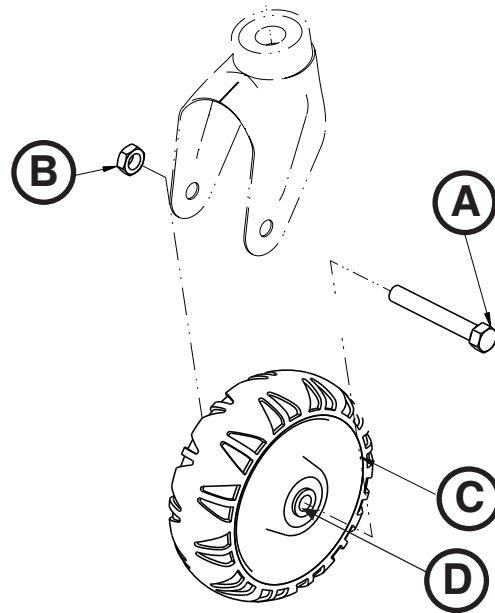

Figure 30: Cot Wheel without Wheel Covers
2. Using a 5/8" socket with 3/8" drive ratchet and a 11/16" combination wrench, remove the hex head cap screw (A) and nut (B) that secure the wheel (C) to the caster horn (Figure 30) on the patient right side at the foot end of the cot that is to be used with the installed wheel guide assembly. Save the screw and nut for reinstallation.
3. Remove the two bushings (D) from the wheel (Figure 30). Discard both bushings.